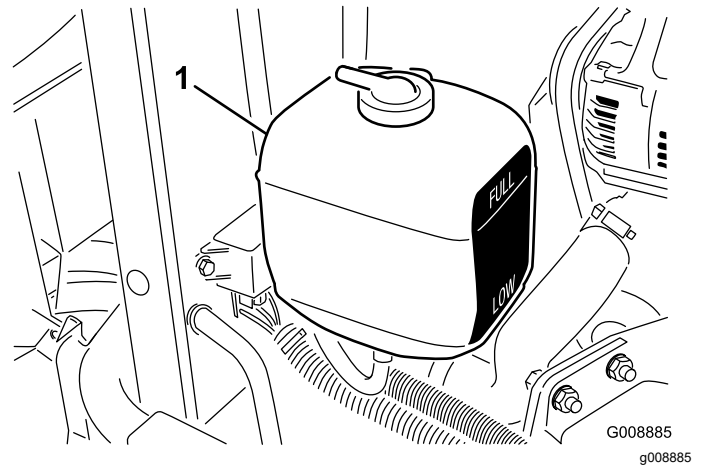

Figure 61
2. Check the coolant level in the expansion tank (Figure 61). With a cold engine, the coolant level should be approximately midway between the marks on the side of the tank.